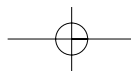

Figure 23.30
- ***29 Consider the timing circuit of Figure 23.30. Given $R = 2.0 \text{ k}\Omega$ and $C = 10 \text{ }\mu\text{F}$,